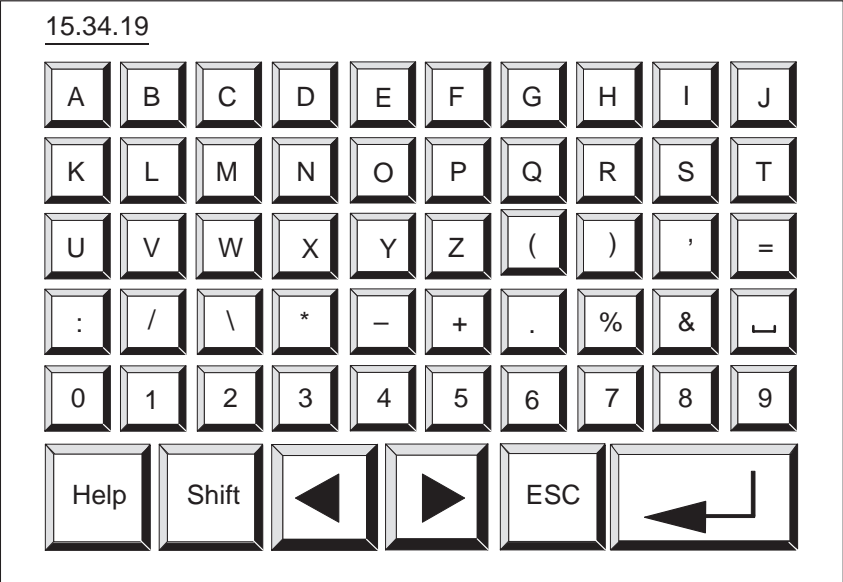

Figure 3-3 Entering alphanumeric values at the language-independent normal level
**Input window** Enter numbers in the fields configured for alphanumeric input, character for character, using the alphanumeric keypad. Figure 3-3 illustrates the language-independent keyboard template for the normal level. The keyboard template for the Shift level of the alphanumeric keyboard varies according to the language.
- Normal level: (see figure 3-3) is the same in all languages.